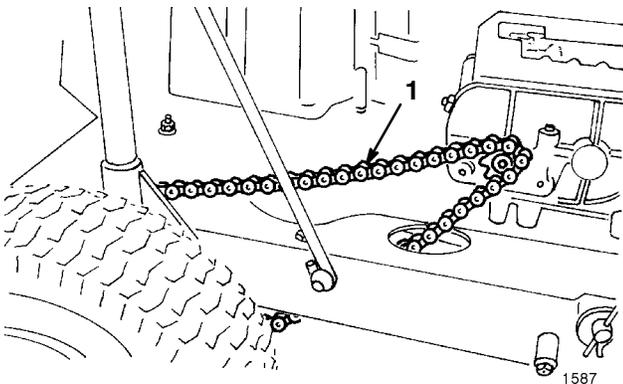
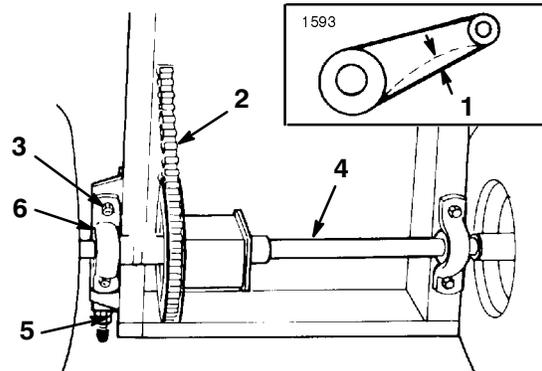

Figure 33
Figure 34
2. Check the deflection of the drive chain by lifting up and pressing down on the chain with moderate pressure at mid span (Fig. 33). There should be 1/8 in. (3 mm) total deflection (Fig. 34). If the deflection is not as specified, an adjustment is required; see steps 3-13.
7. Loosen the four locknuts securing the pillow blocks to the tractor frame (Fig. 34).
8. Loosen the rear jam nut on the chain tensioner (Fig. 34).
11. Since the axle must be parallel to the rear of the chassis, measure the distance from the center of the pillow blocks to the rear of the chassis (Fig. 34). The difference between the two measurements must not exceed 1/8 in. (3 mm). If the difference exceeds 1/8 in. (3 mm), the axle is not parallel with the chassis and must be adjusted.